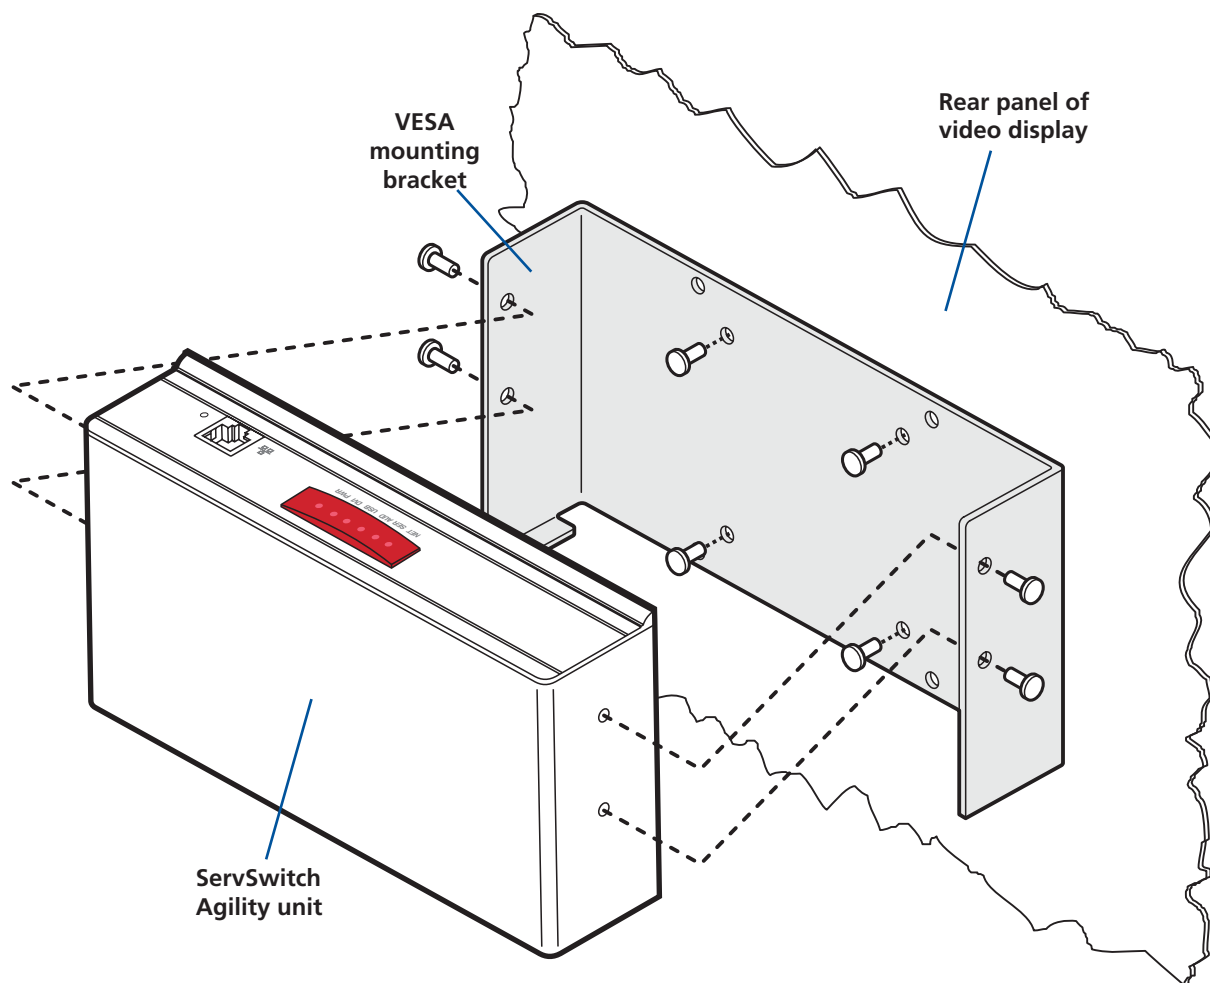

Figure H-3. VESA mounting bracket.
- 1 Orientate the bracket against the rear of the video display so that its small folded-in tabs are lowermost. See Figure H-3.